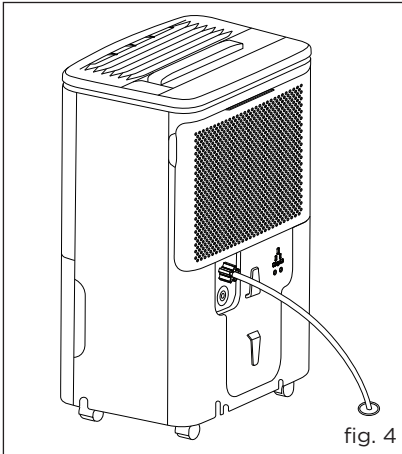

fig. 4
- g. Lead the other end of drainage hose into a drain that is lower than the unit. (fig.4)